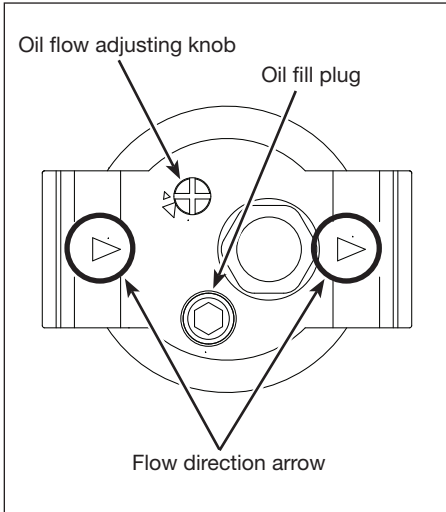

Figure 2 - Detail showing location of flow direction arrow and oil fill plug
1. Locate the air flow direction arrow (See Figure 2, detail). This arrow shows the direction of the air flow.
3. Verify the arrow points in the direction of the air flow (See Figure 2.)
3. The oil flow is controlled by the narrow cylindrical adjustment screw (See Figure 2). Turn counter-clockwise for more or clockwise for less oil delivery. The oil delivery rate automatically adjusts with changes in air flow.
4. The lubricator can be filled while the system is under pressure. Slowly remove the oil fill plug (See Figure 2)